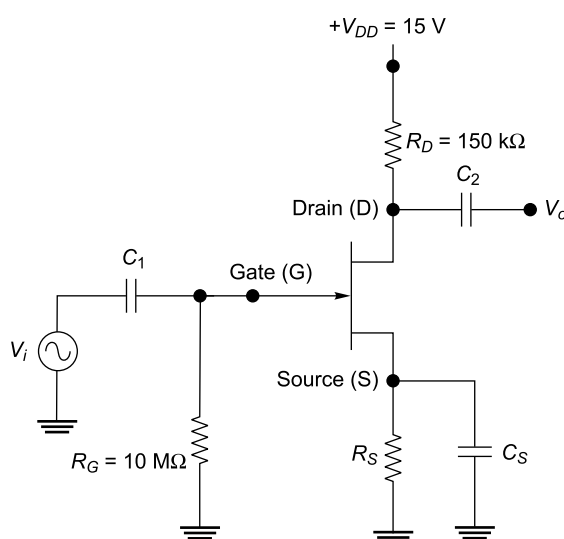

Fig. 1.89
46. Figure 1.89 shows a common source JFET amplifier circuit. Determine the value of voltage gain of the amplifier, input resistance and output resistance. Assume r_d is 200 k Ω and $g_m = 4$ mA/V.